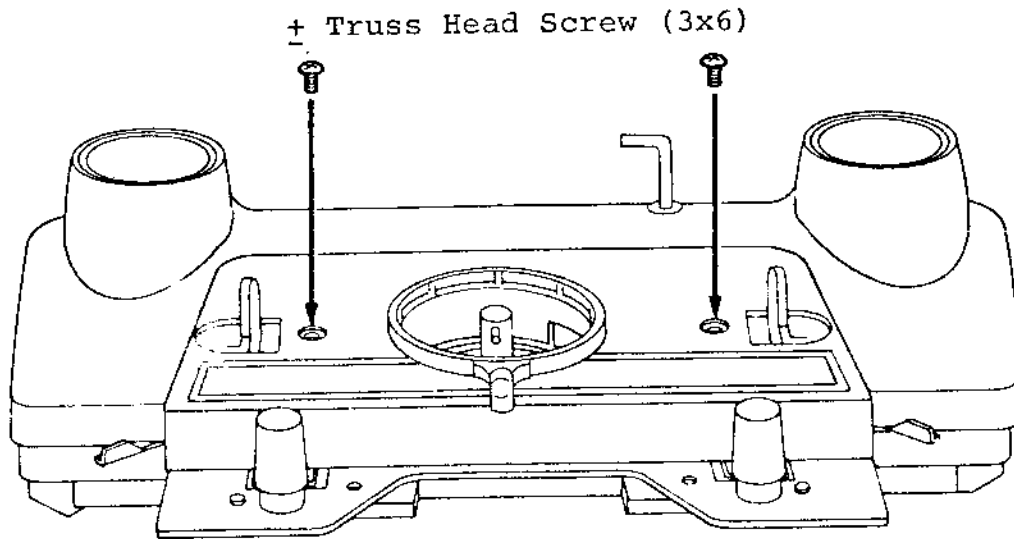

Fig. 52
5. Secure Carriage Cover A with two $\frac{1}{4}$ " Truss Head Screws (3x6) as indicated in Fig. 52.